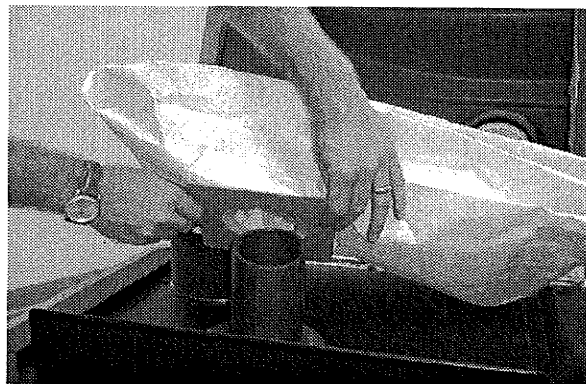

FIG. 9
2. Install filter bag over vacuum outlet duct as shown (Figure 9).